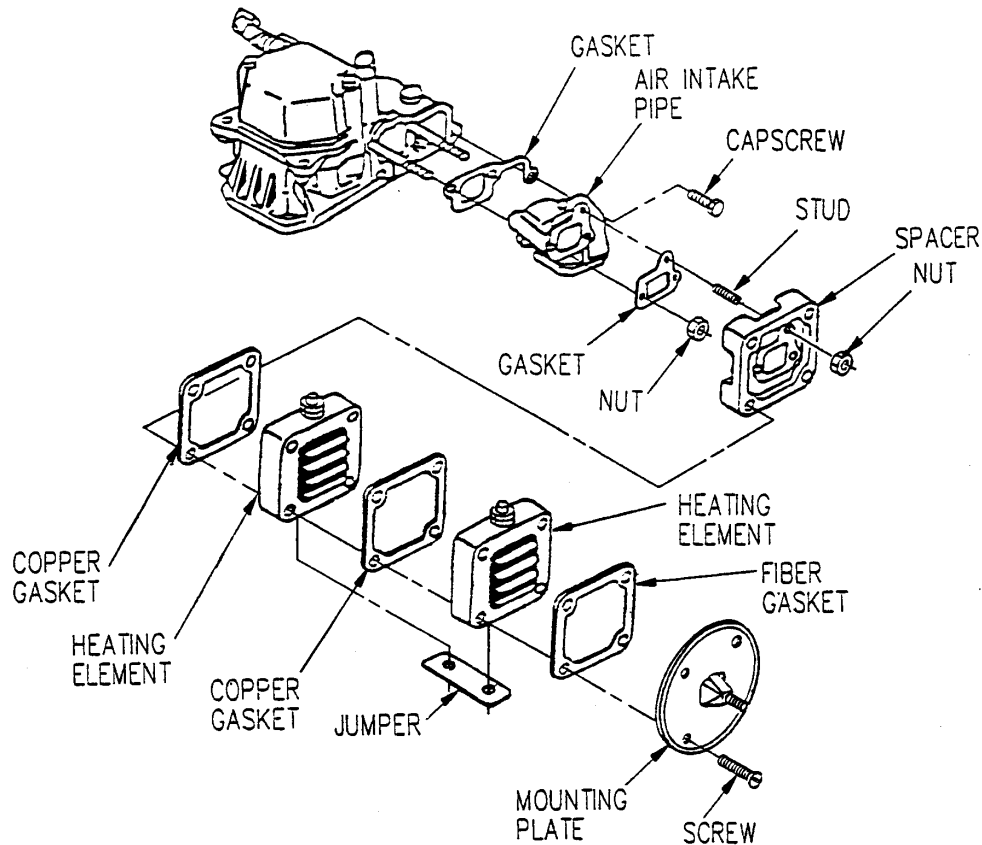

Figure 4-51. Air Intake Heating Elements and Pipe
- (2) Remove air intake system components, refer to paragraph 4.18.a.
- (3) Tag and disconnect electrical leads from air intake heating elements (Figure 4-51).
- (4) Remove screws, mounting plate, gaskets, and air intake heating elements from spacer.
- (5) Remove jumper and separate air intake heating elements and gasket.
- (6) Remove nuts and spacer from air intake pipe.
- (7) Remove diesel engine cooling fan cover, refer to paragraph 4.53.b.
- (8) Remove capscrew, air intake pipe, and gasket from cylinder head.
- (9) If necessary, remove stud from air intake pipe.
- (1) If removed, install stud (Figure 4-51) in air intake pipe.